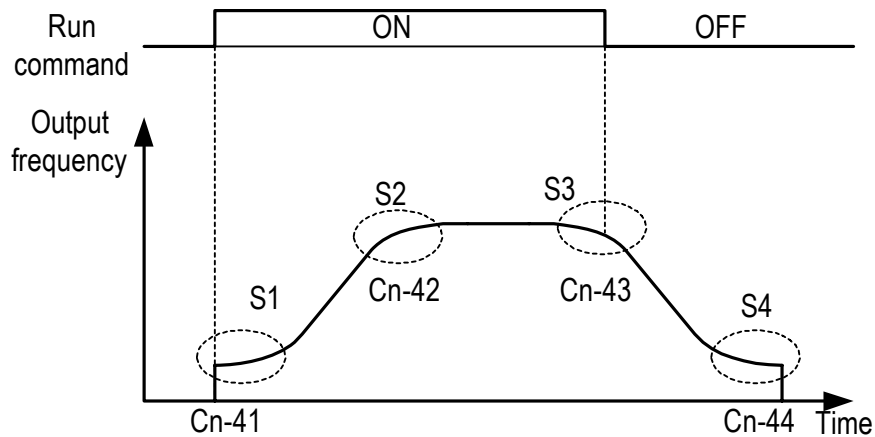

Fig. 27. S curve
(35) Low Voltage Alarm Detection Level (Cn-39)
(36) Slip Compensation Primary Delay Time (Cn-40)
(37) S-curve Characteristic Time at Acceleration Start (Cn-41)
(38) S-curve Characteristic Time at Acceleration End (Cn-42)
(39) S-curve Characteristic Time at Deceleration Start (Cn-43)
(40) S-curve Characteristic Time at Deceleration End (Cn-44)
- Using the S-curve characteristic function for acceleration and deceleration can reduce shock to the machinery when stopping and starting. With the inverter, S-curve characteristic time can be set respectively for beginning acceleration, ending acceleration, beginning deceleration and ending deceleration. The relation between these parameters is shown in Fig. 27.